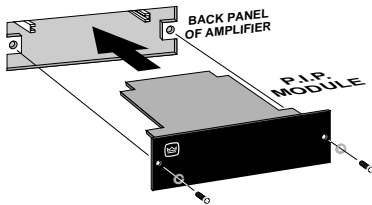

Fig. 3.5 Installation into a Standard P.I.P. Amplifier
3. Standard P.I.P. Amplifiers: Align the edges of the *P.I.P.-EDCb* in the *P.I.P.* card rails and firmly push the unit in until it is seated against the mounting bracket (see Figure 3.5).